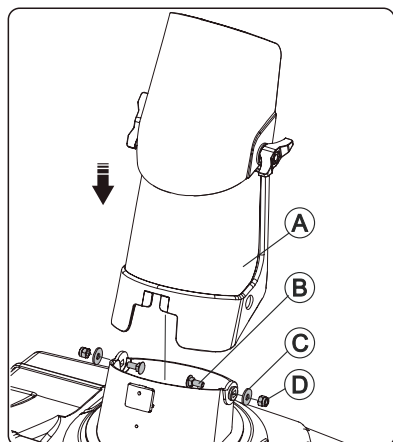

Fig 5
2. Install two M6 Carriage bolts (Item B) from the inside of the chute outward, placing the washers and M6 locknuts (items C, D) on the outside. Tighten securely. (Fig 5)